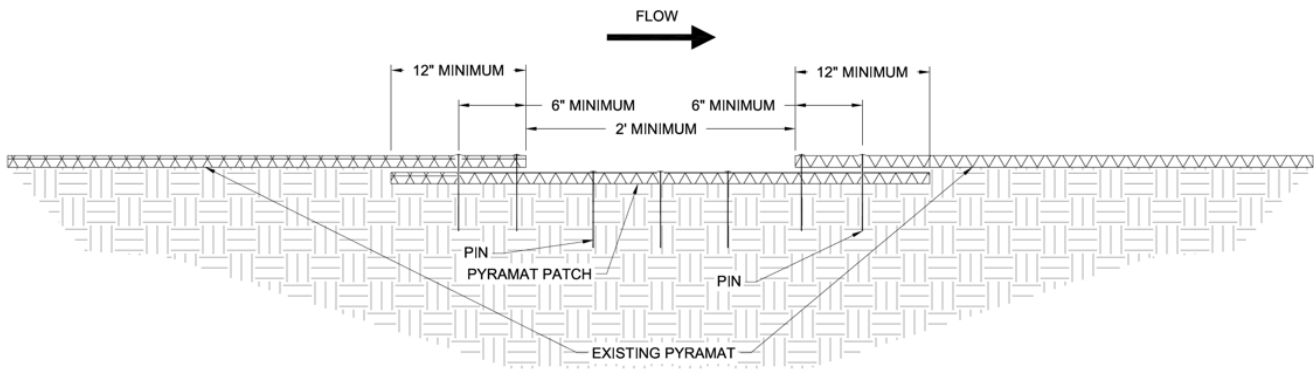
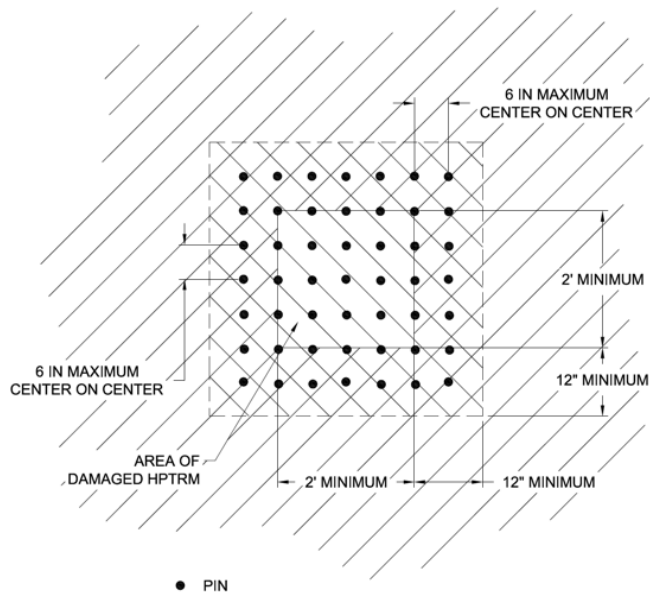

Figure 21: PROPEX Pyramat patch cross section
Figure 22: PROPEX Pyramat patch plan view
- A. Acceptable (A) - The rated area is in satisfactory, acceptable condition, and will function as designed and intended during the rain event. **PROPEX** Pyramat has no exposed edges, is installed tightly by maintaining direct contact to the slope surface with no drilling beneath, and has over 90% vegetation cover. There is no noticeable damage present.
- B. Minimally Acceptable (M) - The rated area has a minor deficiency that needs to be corrected. The minor deficiency will not seriously impair the functioning of the area during the next rain event; however, the overall reliability of the project will be lowered because of the minor deficiency. **PROPEX** Pyramat has 75% vegetation cover with unvegetated patches as large as one square yard. Edges of the material are exposed with noticeable damage. Minimal erosion has occurred underneath **PROPEX** Pyramat.
- C. Unacceptable (U) - The rated area is unsatisfactory. The deficiency is so serious that the area will not adequately function in the next rain event. **PROPEX** Pyramat has been physically torn, ripped, or lifted from the slope surface. Less than 75% vegetation cover is present with unvegetated patches being greater than 1 square yard, and there is evidence that erosion is occurring beneath **PROPEX** Pyramat.
- To repair **PROPEX** Pyramat, cut out and remove damaged areas in a square configuration a minimum size of 2 ft by 2 ft. Remove all vegetation and debris atop of the material. Loosen the top 1 to 2 in of soil in the patch area then seed. The subgrade of area to be patched shall be prepared to be smooth and uniform and transition smoothly into the in-situ area. Cut a square **PROPEX** Pyramat patch a minimum of 12 in greater than the damaged area for all four sides of the patch. Overlap the patch area in all directions a minimum of 12 in. The patch overlaps shall be tucked under the existing damaged **PROPEX** Pyramat material (Figure 21 and Figure 22).